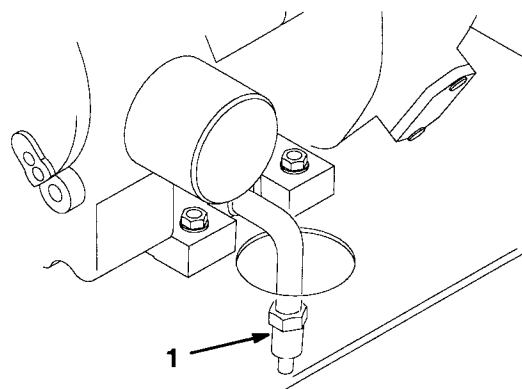

Figure 24
4. Place a pan below the oil drain. Open the drain by turning it counterclockwise 1/8 turn and pulling out on it (Fig. 24).